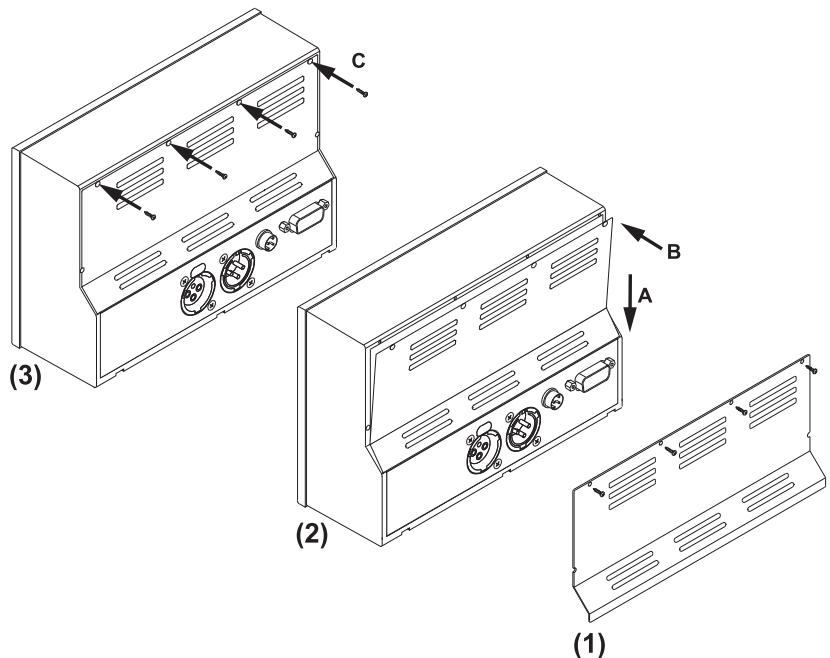

Fig. E 7-12: Mounting the backplane cover
13. Place the backplane cover back to the upper flange of the connector panel (A) and fold it into the tracks of the case (B). Fasten it with the four screws (C). (Fig. E 7-12)